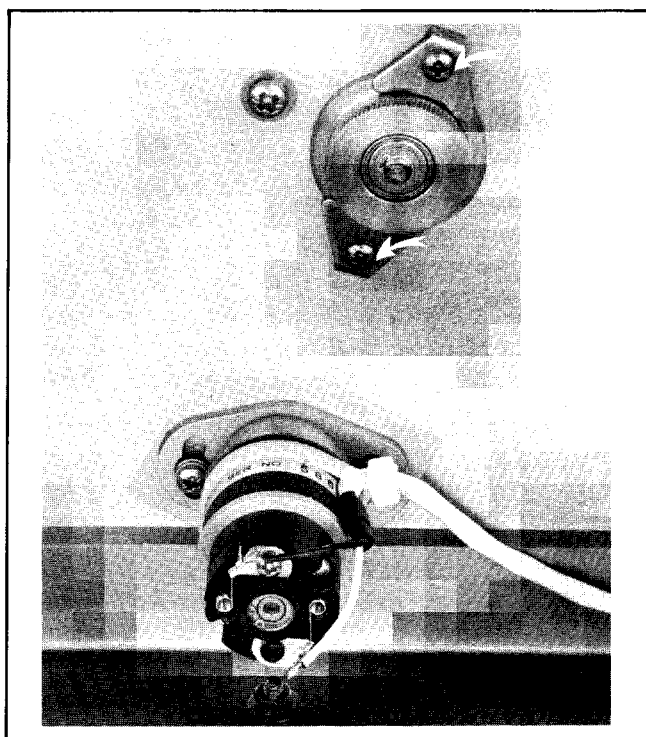

FIGURE 3-19. X-AXIS GEAR TRAIN BACKLASH ADJUSTMENT
- c. Loosen two screws securing the eccentric adjustment (Knurled Knob, Figure 3-19).